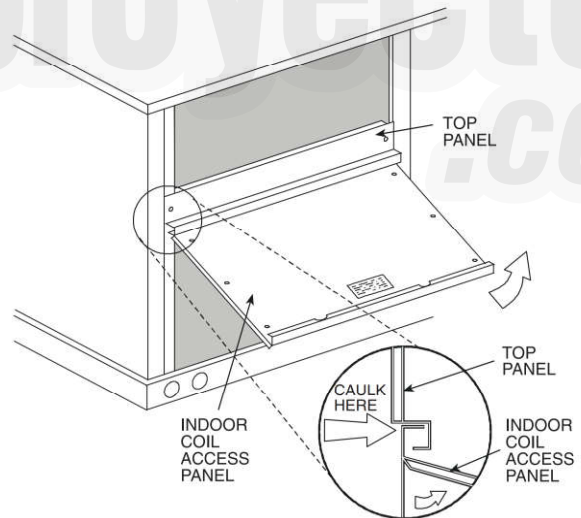

Fig. 15 — Indoor Coil Access Panel Relocation
1. The indoor coil access panel will be used as the top of the hood. Remove the screws along the sides and bottom of the indoor coil access panel. (See Fig. 15.)